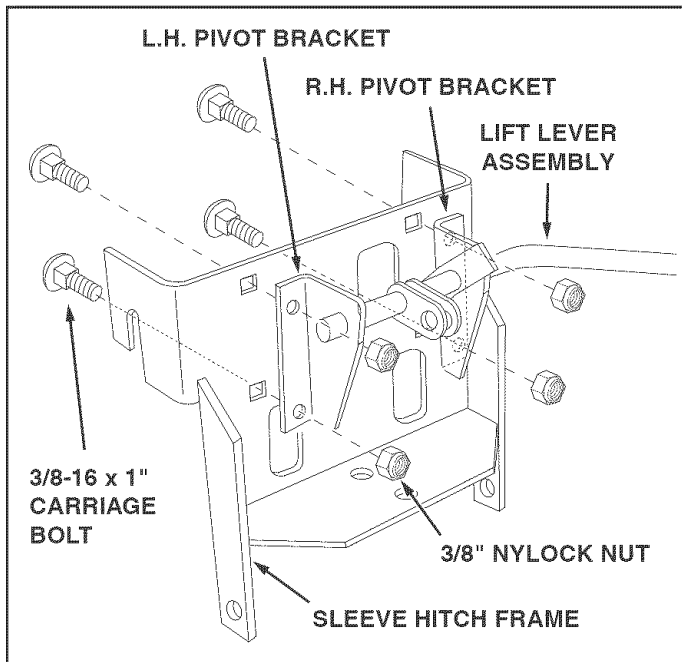
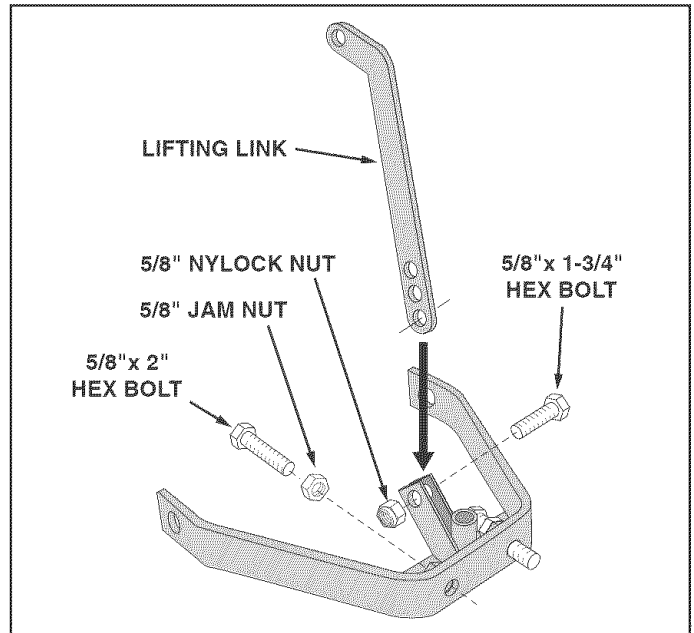

FIGURE 3
FIGURE 5
- Place the L.H. Pivot Bracket onto the end of the Lift Lever Assembly (the R.H. Pivot Bracket comes already installed on the assembly). See Figure 3.
- Attach the R.H. and L.H. Pivot Brackets to the Sleeve Hitch Frame Assembly using four 3/8" x 1" carriage bolts and 3/8" nylock nuts. See Figure 3.
- Assemble the two 5/8" jam nuts halfway onto the two 5/8" x 2" hex bolts. Screw the bolts into the nuts that are welded to the Sleeve Hitch Lift Assembly. Tighten the jam nuts against the welded nuts. See figure 5.
- Assemble the lifting link to the Sleeve Hitch Lift Assembly using a 5/8" x 1-3/4" hex bolt and a 5/8" nylock nut. Use the bottom hole in the lifting link (gives the lowest implement depth setting). Tighten the nut only until snug. Do not squeeze the welded arms together. See figure 3. See figure 5.
- Attach an implement using the sleeve hitch pin. Tighten the 5/8" x 2" stabilizer bolts against the implement hitch and then tighten the jam nuts. See Figure 5 on Page 5.